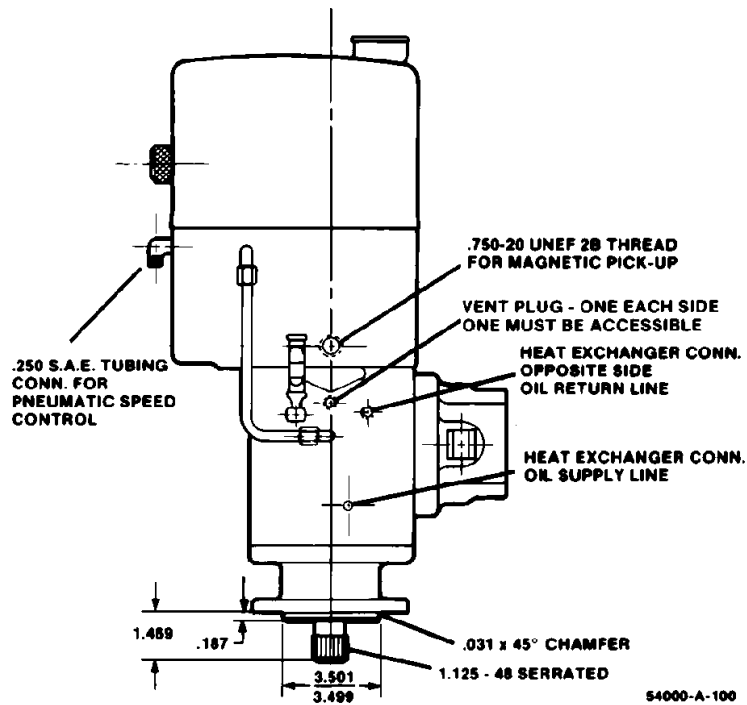

Figure 4. Outline Drawing of PG-PL Governor
4. Loosen the vent plug (see **CAUTION** below) on the side of the governor case (see Figure 4) enough to establish an oil leak.